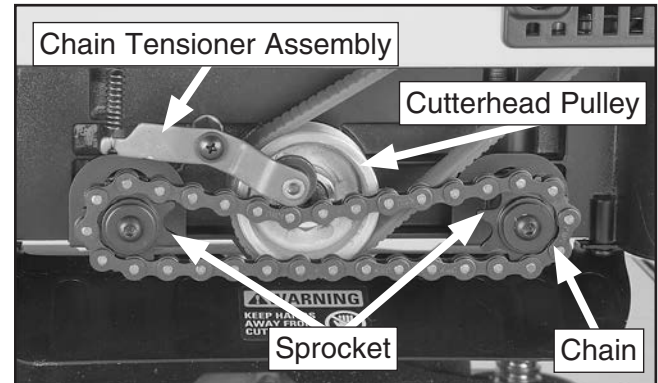

Figure 23. Pulley area components.
30. Re-install sprockets and chain on front and rear rollers in pulley area (see **Figure 23**).
31. Re-install chain tensioner and re-attach spring. Verify tensioner is engaged with chain (see **Figure 23**).